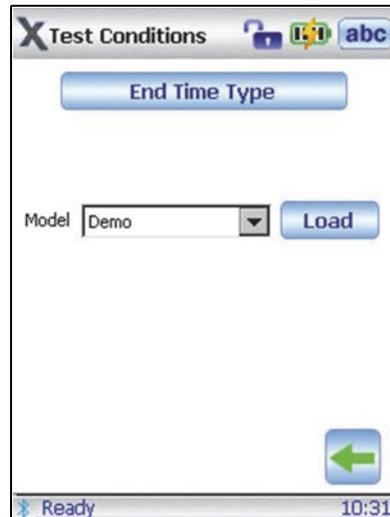

Figure 6-20 The DELTA analyzer Test Conditions screen
5. On the **Test Conditions** screen, select a model, and then click **Load** (see Figure 6-20 on page 94).